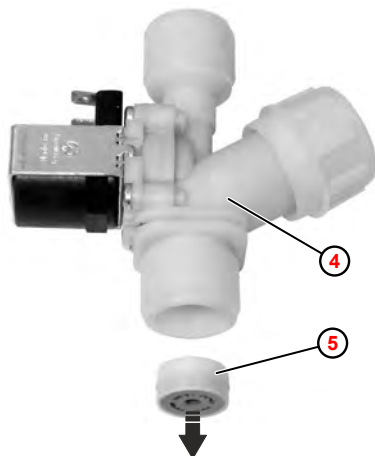

Fig. 19: Removing the quantity regulator
- ④ Solenoid valve
- ⑤ Flow regulator
4. ➤ If necessary, remove the quantity regulator ⑤ from the solenoid valve ④ using a suitable tool (e.g. scriber). This destroys the quantity regulator.
5.  **Fit a new** quantity regulator, making sure that it is in the correct position ( Fig. 19 ).